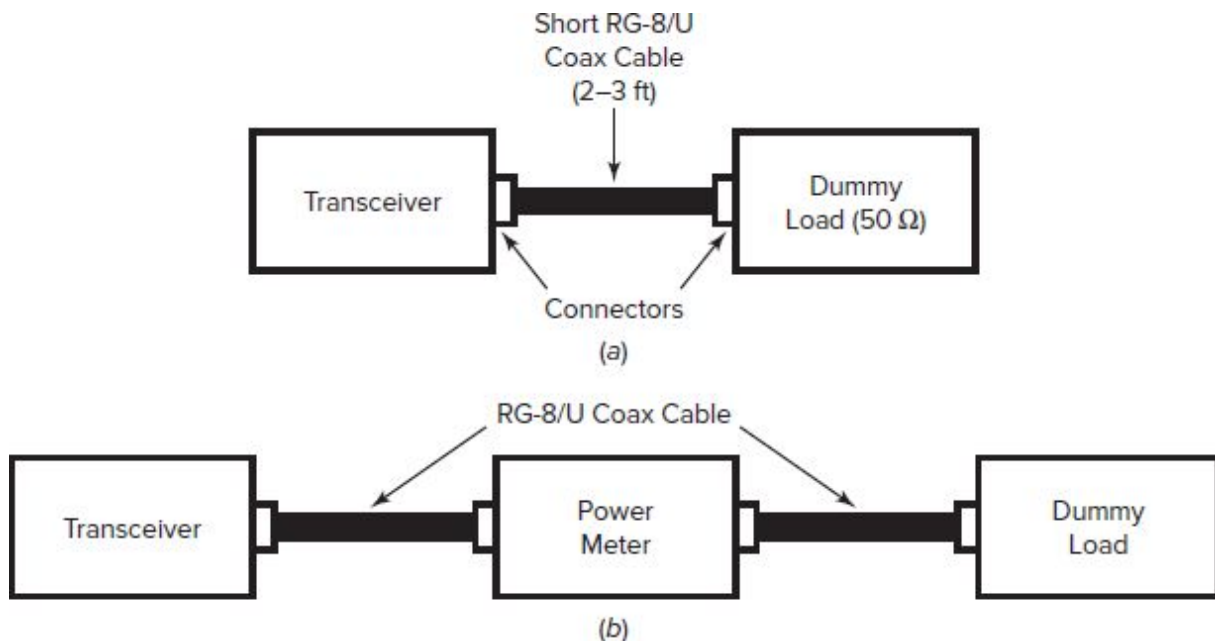

Fig. 8-6 Connections for measuring power.
3. Refer to Fig. 8-6(a). Connect the 50- Ω dummy load to the transmitter output.
7. Turn off the power and connect the wattmeter into the line between the transmitter output and the dummy load as shown in Fig. 8-6(b).